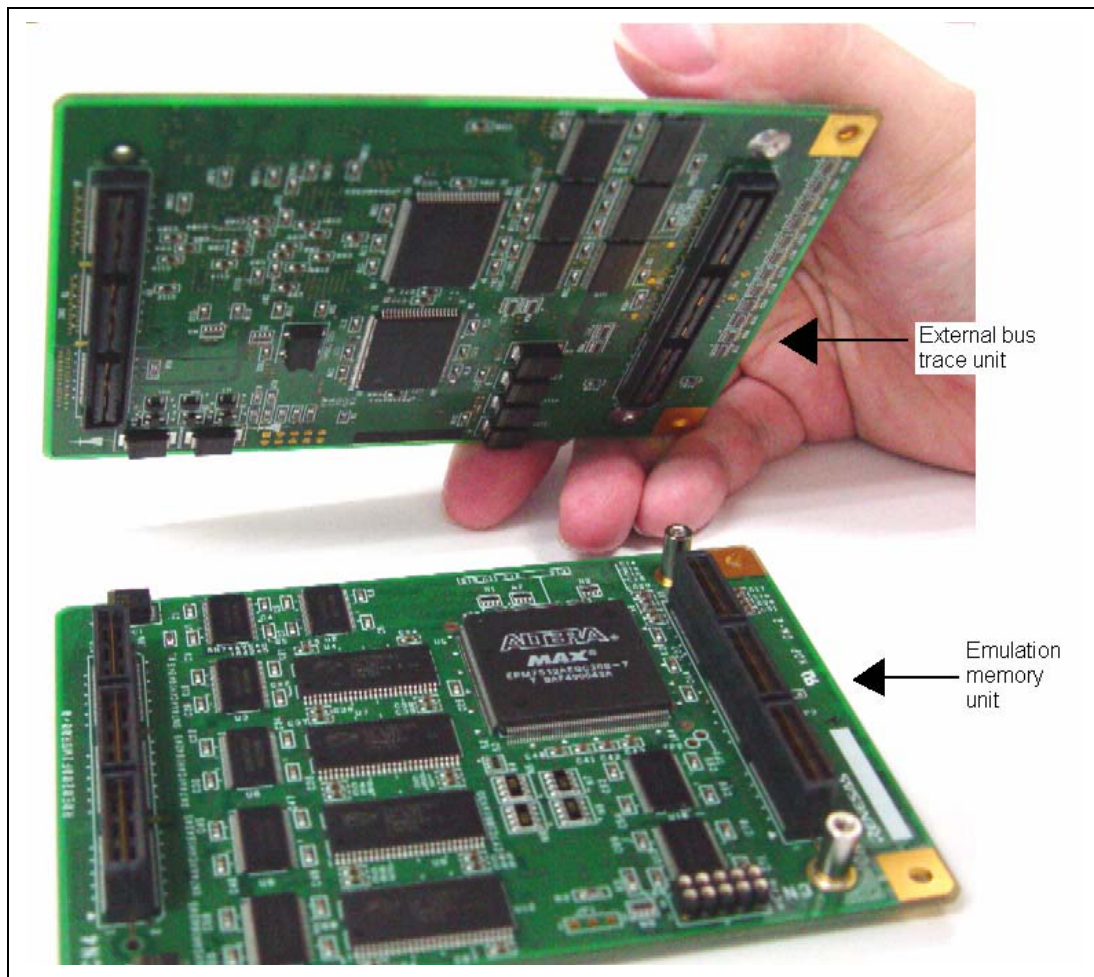

Figure 2.22 Connecting the External Bus Trace Unit to the Emulation Memory Unit
- When the external bus trace unit is used with the emulation memory unit, firstly connect the external bus trace unit to the emulation memory unit (figure 2.22) and then to the user system.